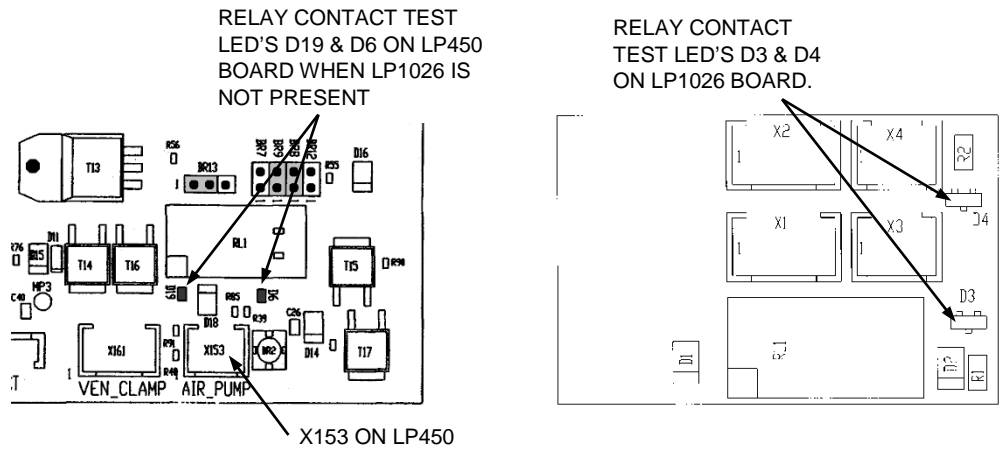

Figure 5 - Level Detector with Relay Contact Test LED's.
- Use **Method 1** if LP450 has LED's D6 & D19 (See Figure 5)
- Use **Method 2** if LP450 does not have relay test LED's then locate a separate relay board LP1026 with test LED's D3 & D4 (See Figure 5).